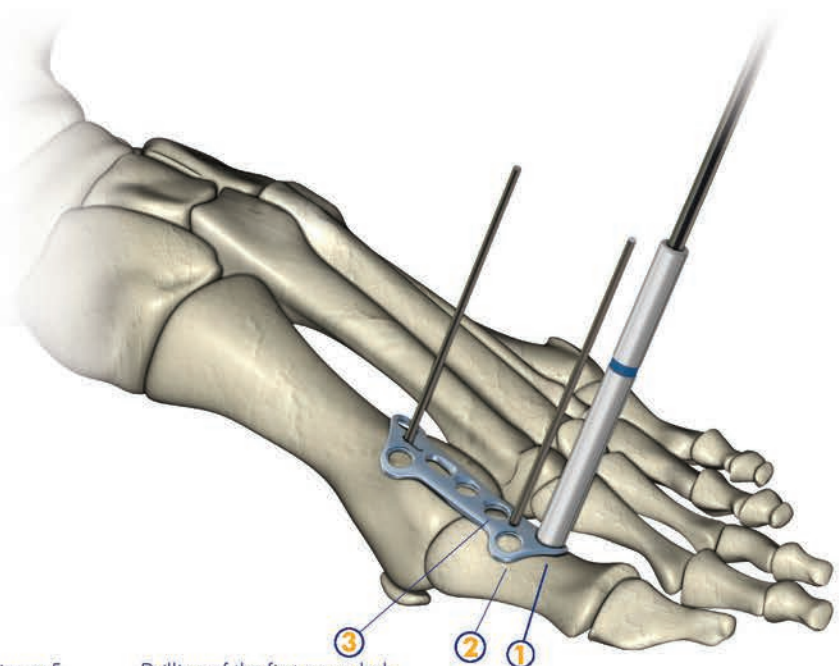

Figure 5 Drilling of the first screw hole
The attachment of the MTP plate begins distally at the phalangeal. It is important to ensure that the screwing begins on the lateral (1) or medial (2) holes. Thread a DIA. 2.0 mm drill guide (Ref. FH10045) into the distal screw hole. Predrill through bone with DIA. 2.0 mm drill bit (Ref. FH10003) (Figure 5). The distal K-wire has to be removed prior to placing the third hole (3), otherwise the K-wire collides with the drill or the screw.